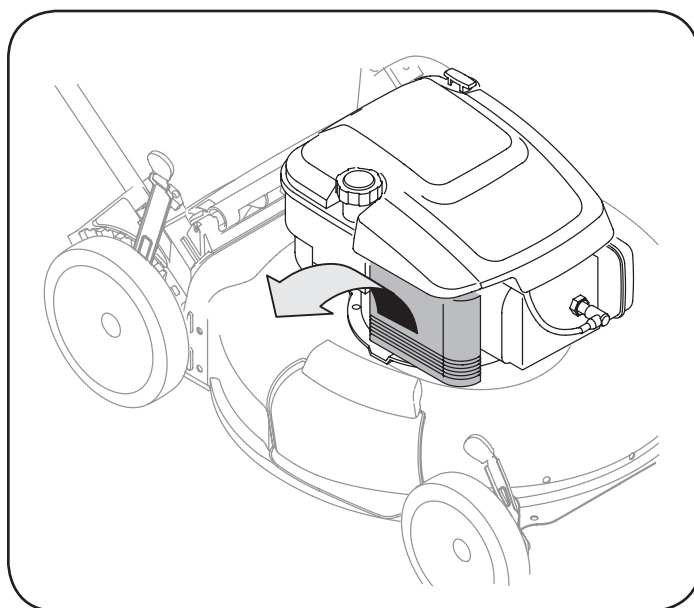

Figure 16
1. Loosen screw and tilt plastic housing cover on side of engine down. See Figure 16.